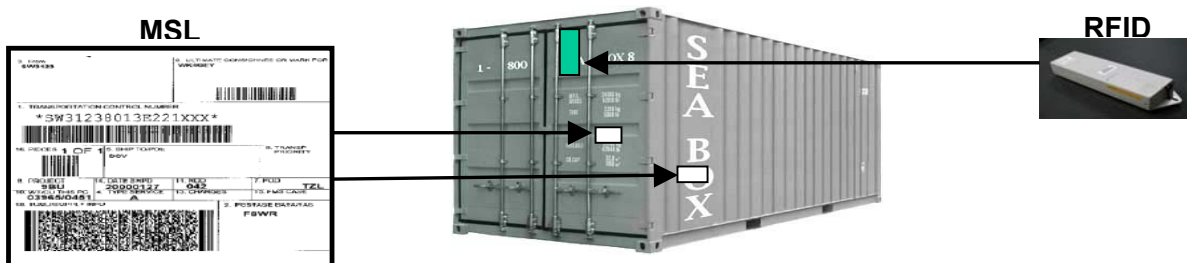

Figure 4-2 Container Marking Standard
- Radio Frequency Tags – Containers will be marked with one RF tag. Attach the tag to the locking bar on the upper right side of the container door using nylon zip ties (see Figure 4-2).
- Military Shipping Labels – Containers will be marked with two MSLs. Attach one label to the door and one to the right side of the container as you look at the door (see Figure 4-2).